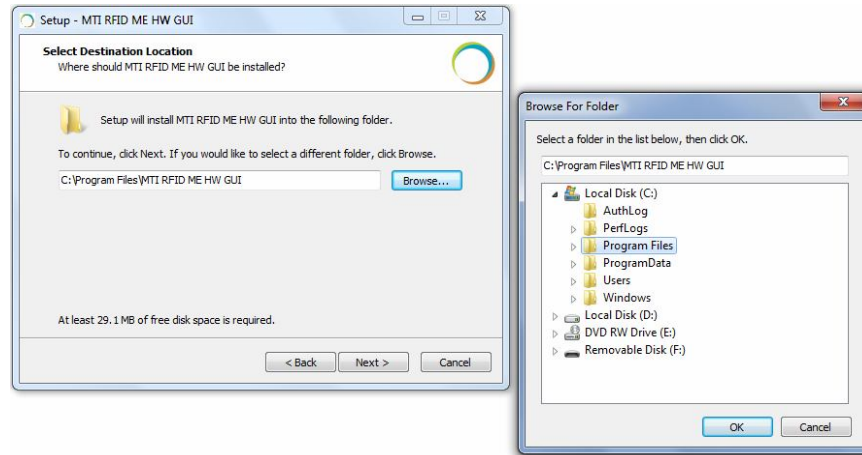

Figure 3
- 2.1.3. Select a Destination Folder. To select a different folder, click “Browse” and choose one of the available options as shown in Figure 3.